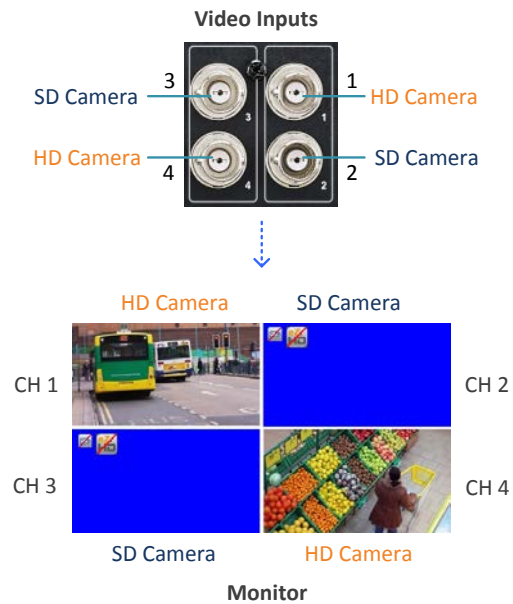

Figure 2
2. If you connect an HD and a SD camera to the same pair of the video inputs, it will only display HD camera live view on the screen. As for the SD camera channel, it will just pop up status icons to indicate you that it's not an eZ.HD (HD) camera so you need to re-plug the SD camera to a new pair of video inputs or to the pair of video inputs with the other SD camera already connected. (see Figure 2).